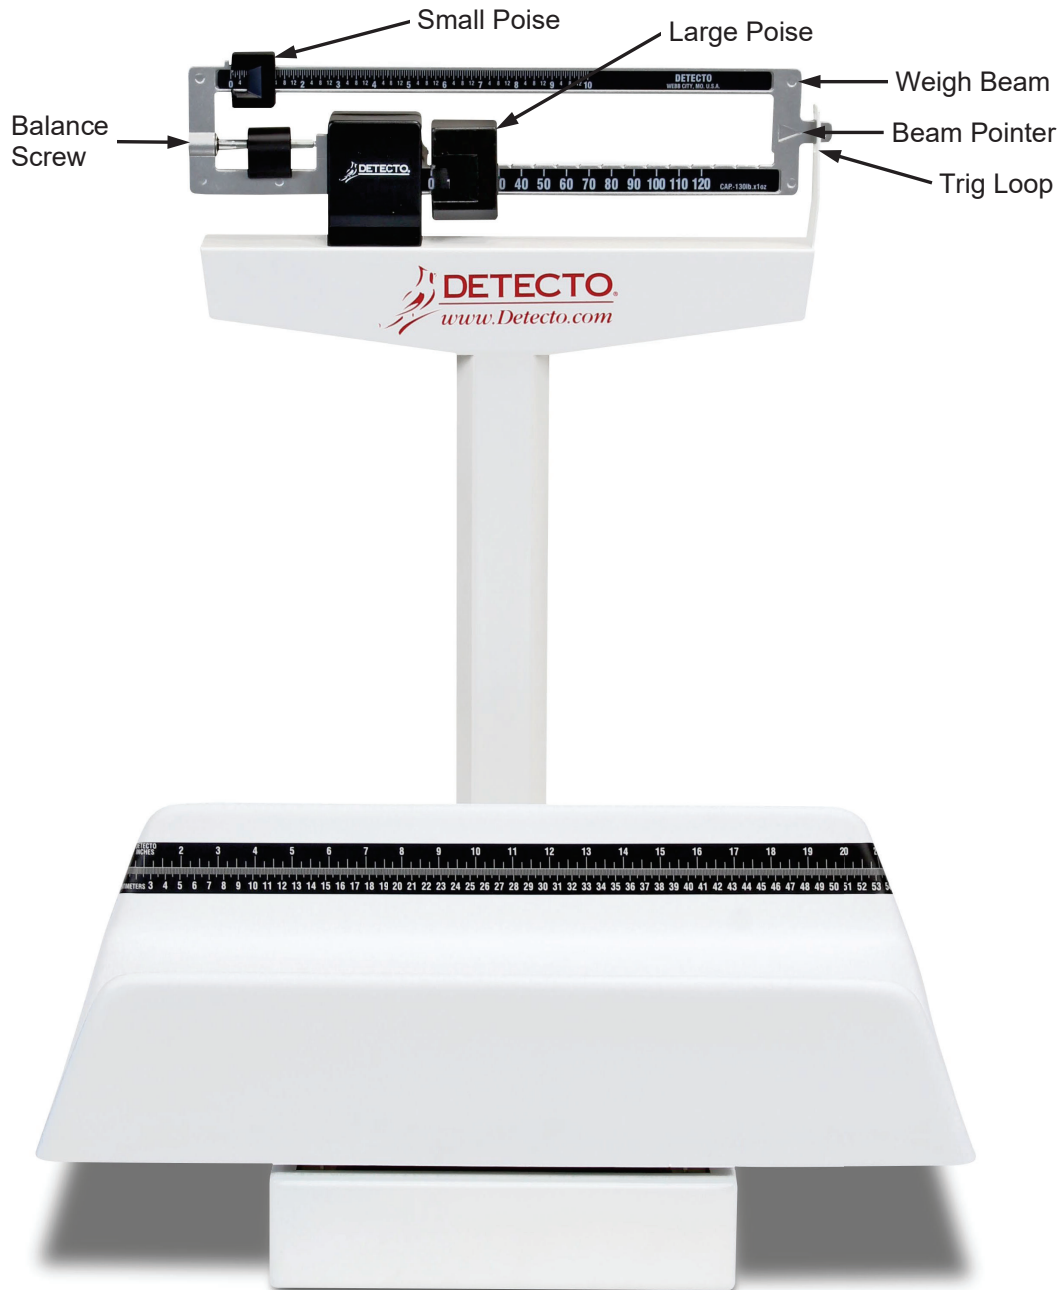

Figure 8 - View showing components for balancing scale prior to normal operation.
3. If the beam pointer doesn't remain centered, turn the balance screw (shown in Figure 8) to the right or left using a flathead screwdriver until the beam pointer remains centered within the trig loop.
Zero balance out of adjustment	<ul style="list-style-type: none"> The weighing beam must be balanced so the beam pointer comes to a rest in the center of the trig loop when both the small and large poise are set at zero (far-left position). Refer to Figure 8 and the BALANCING THE SCALE instructions.